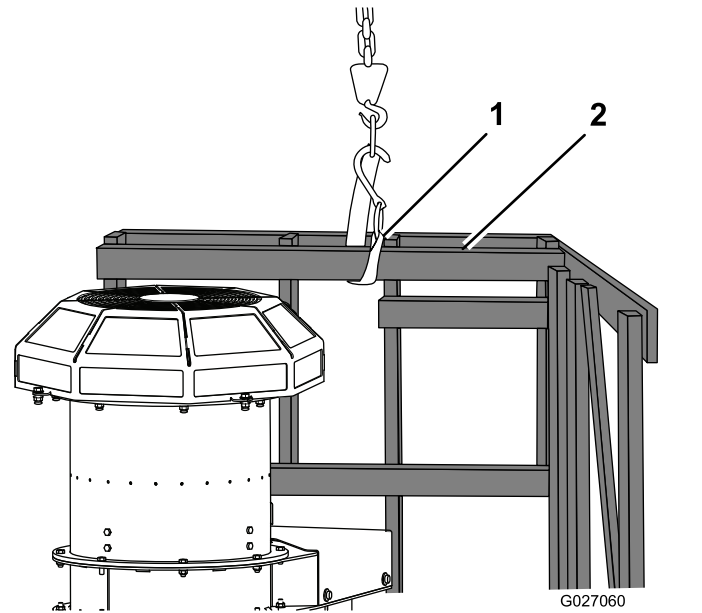

Figure 4
4. Secure a strap to the top end assembly and lift the pallet until the crate and blower is standing up vertically (Figure 4).